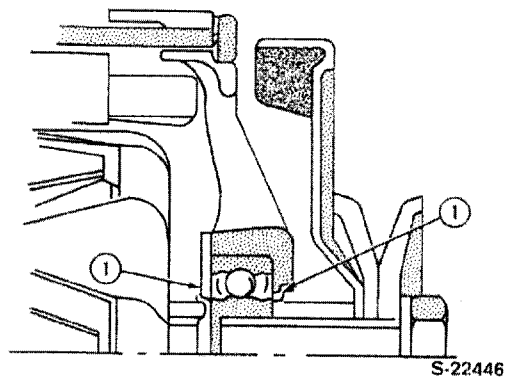

Figure 98
3. Install dust seals before and behind the front bearing as shown in Figure 98.